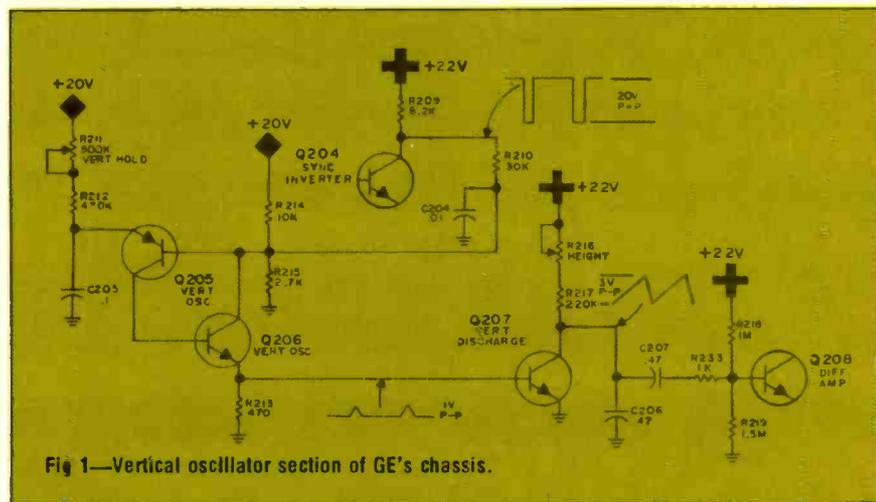

Fig. 1—Vertical oscillator section of GE's chassis.
■ Shown in Figs. 1, 2 and 3A/B are the three functional sections which comprise the vertical sweep system employed in GE's 1975 model-year XA all-solid-state monochrome TV chassis. These three sections are: the vertical oscillator (Fig. 1), a differential amplifier (Fig. 2), and the vertical driver/output section (Figs. 3A/B).
The vertical oscillator section of the XA chassis (Fig. 1) consists of a free-running complementary relation oscillator (Q205, Q206) and a sawtooth generator stage (Q207, called 'VERTICAL DISCHARGE' in Fig. 1).